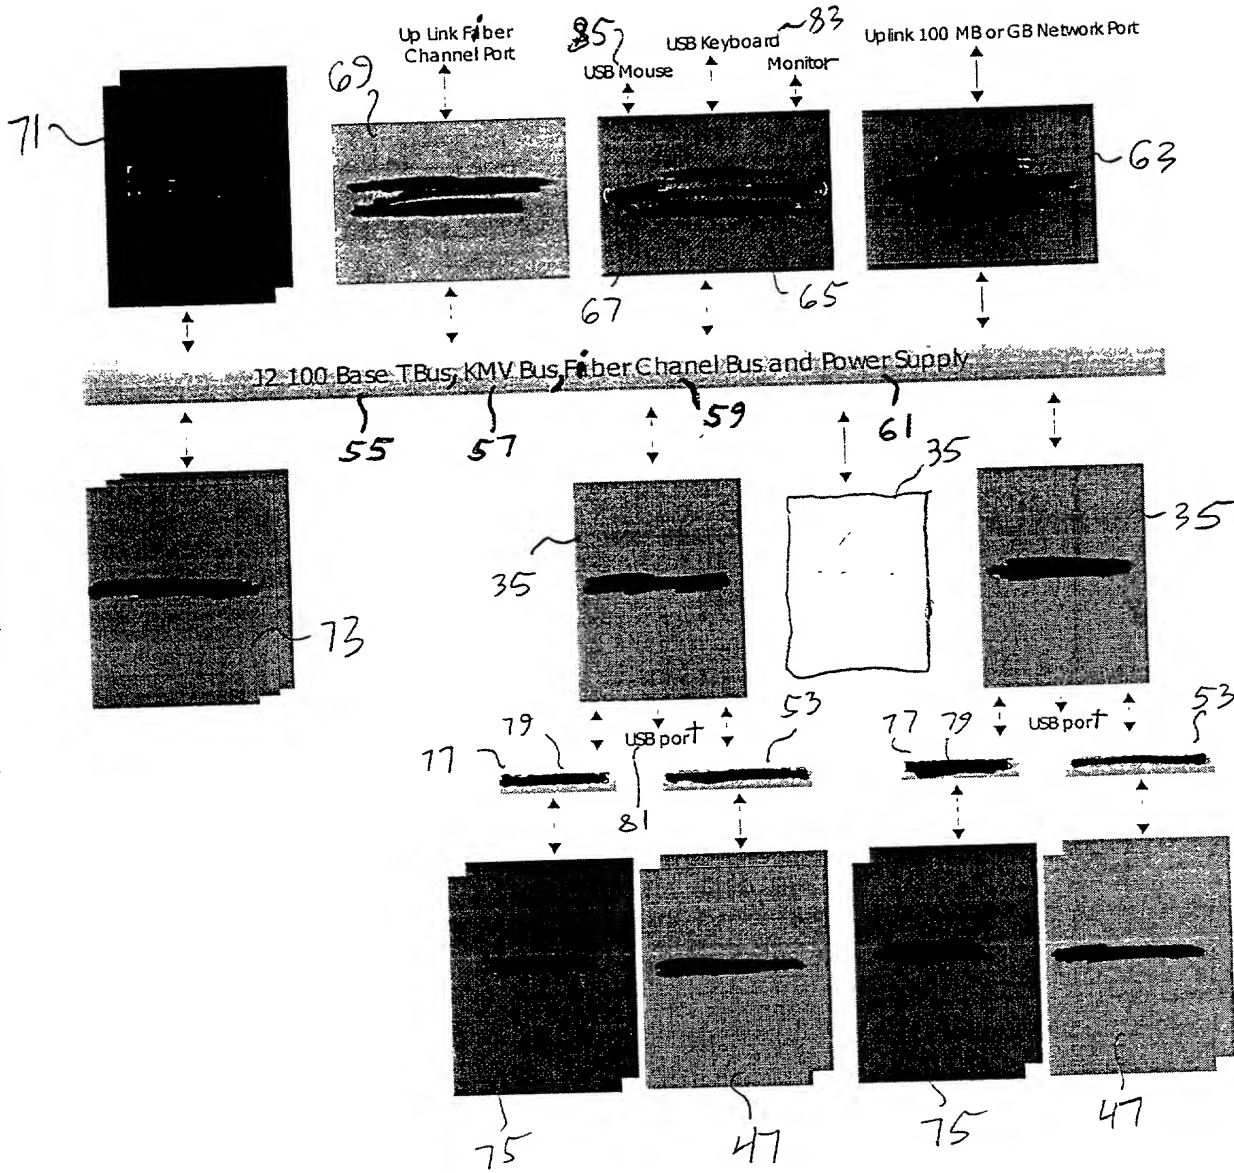

FIG. 9
FIG. 9 is a schematic diagram of a system architecture. The diagram shows a central horizontal bus labeled "12-100-Base T Bus, KVM Bus, Fiber Channel Bus and Power Supply". Above the bus, there are four main components: a "Up Link Fiber Channel Port" (69), a "USB Mouse" (85) and "USB Keyboard" (83) connected to a "Monitor" (83), and an "Up link 100 MB or GB Network Port" (63). Below the bus, there are four main components: a "73" (73), a "35" (35), a "61" (61), and a "35" (35). The "73" (73) is connected to the bus via a "55" (55) and "57" (57). The "35" (35) is connected to the bus via a "59" (59). The "61" (61) is connected to the bus via a "35" (35). The "35" (35) is connected to the bus via a "35" (35). Below these components, there are four "USB port" (79) components, each connected to a "77" (77) and "81" (81). The "77" (77) and "81" (81) are connected to the bus via a "53" (53). Below the "USB port" (79) components, there are four "75" (75) and "47" (47) components, each connected to the bus via a "75" (75) and "47" (47).